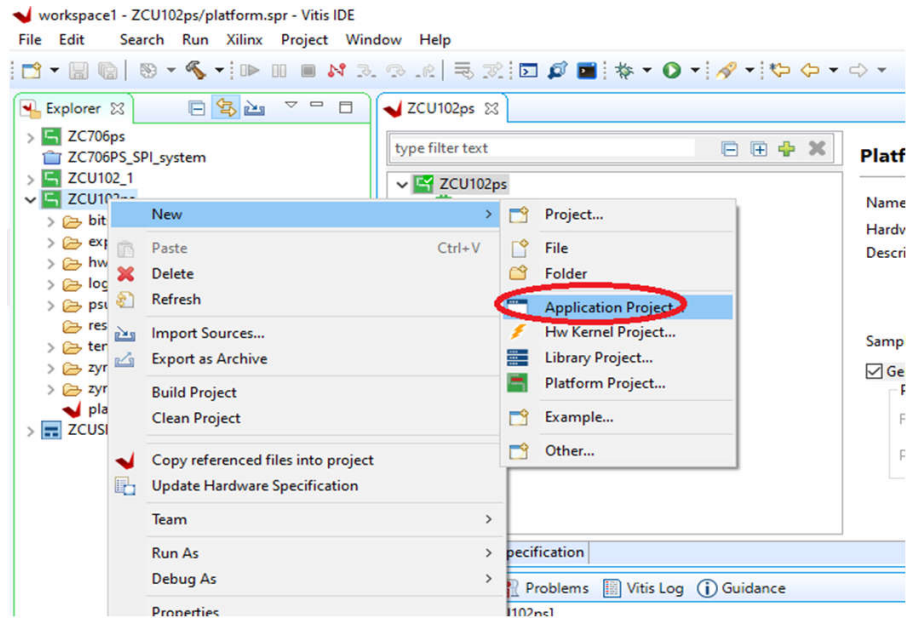

Figure 7-1. Creating New Application Project
1. Right-click the *Platform* project, go to *New*, then click *Application Project* (see Figure 7-1).